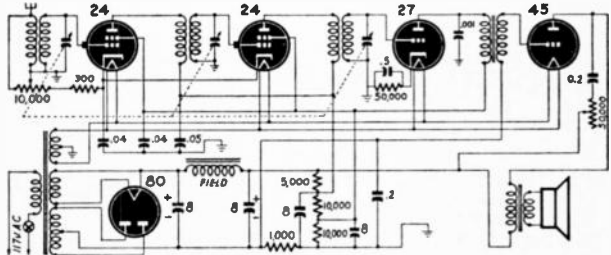

Fig. 112
A. The diagram in Fig. 112 uses two 24's, one 27, one 45 and an 80. The transformer system of coupling will help to compensate for the low gain of the 45.